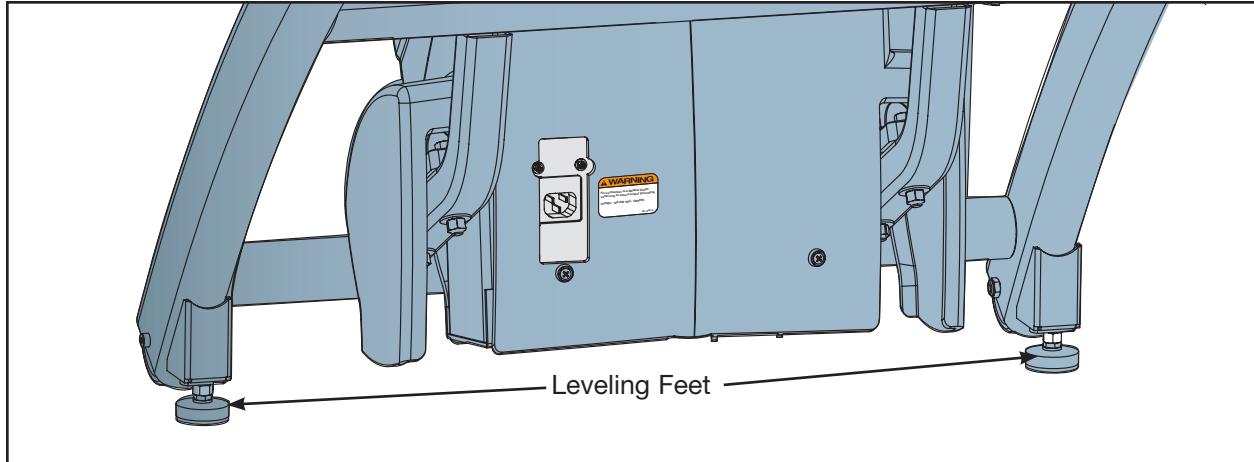

Figure 15
- A. Confirm that the unit is on a level surface. If it is not, use a 9/16" open-end wrench to adjust the leveling feet up or down. See Figure 15.